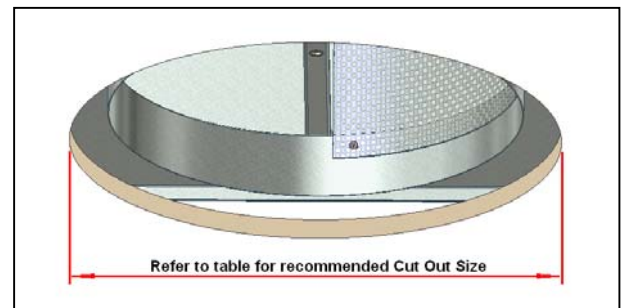

Figure 2: Cut out clearance hole
2. After the Ceiling has been installed, mark out the required Diffuser position then cut out the appropriate clearance hole size (see figure 2). The recommended hole sizes are as follows: